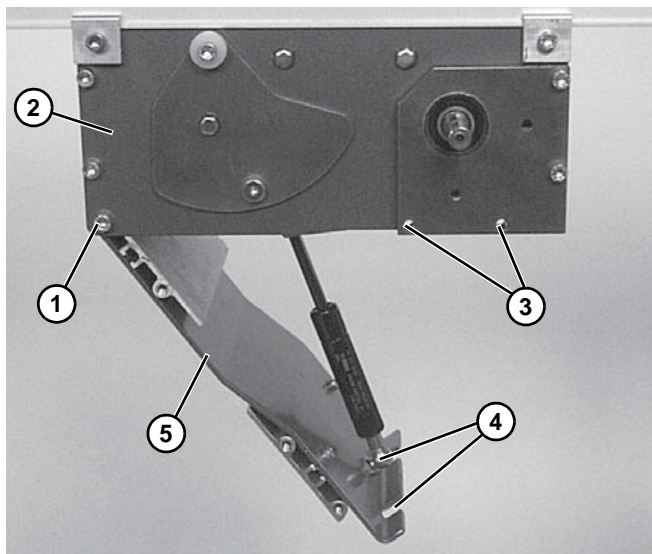

Figure 25
3. Loosen corner screws (**Figure 25, item 1**), on each side of the drive module (**Figure 25, item 2**).
4. Remove tension door screws (**Figure 25, item 3**) on each side of the drive module.
5. Using finger grip holes (**Figure 25, item 4**), open the tension door (**Figure 25, item 5**) to release conveyor belt tension.